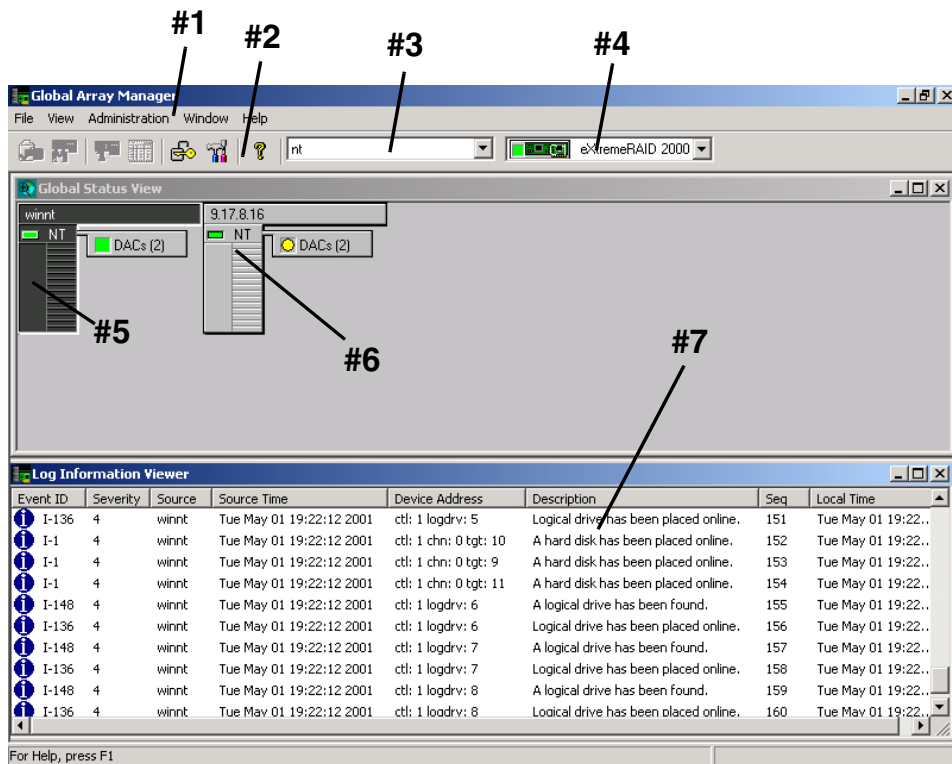

Figure 3-1. Opening GAM Screen
Upon startup (with defined servers), Global Array Manager Client displays the opening screen, consisting of the Global Array Manager window, the Global Status View window, and the Log Information Viewer (Figure 3-1).
The major components of the GAM Client windows (Figure 3-1) are described below.
The major components of the Global Status View window (Figure 3-1) are described below:
7. Item #7 in Figure 3-1 is the GAM Client *Log Information Viewer*. Each line in the Log Information Viewer identifies a single *event* (error, status, warning, etc.) which was noted during monitoring by a file server running GAM Server, and was transmitted by that server to this client workstation. Relevant details accompany the event: